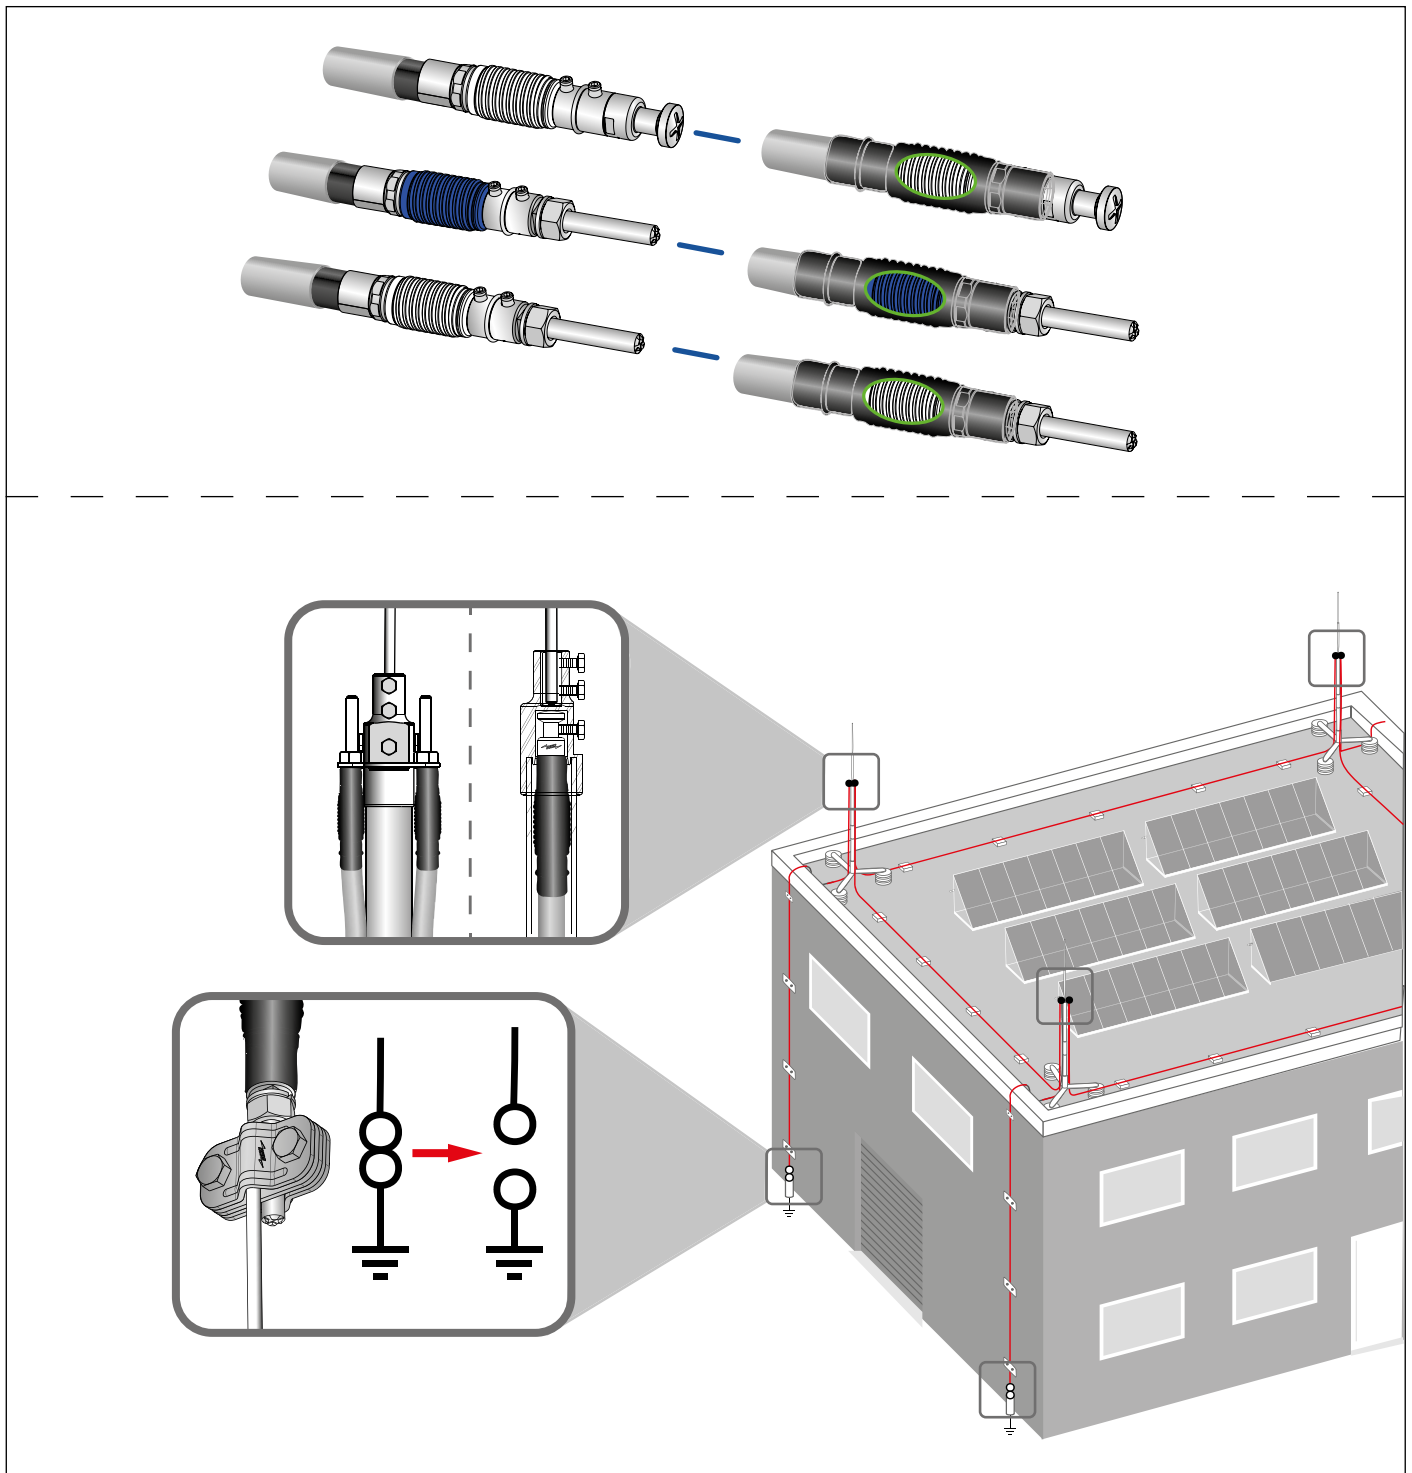
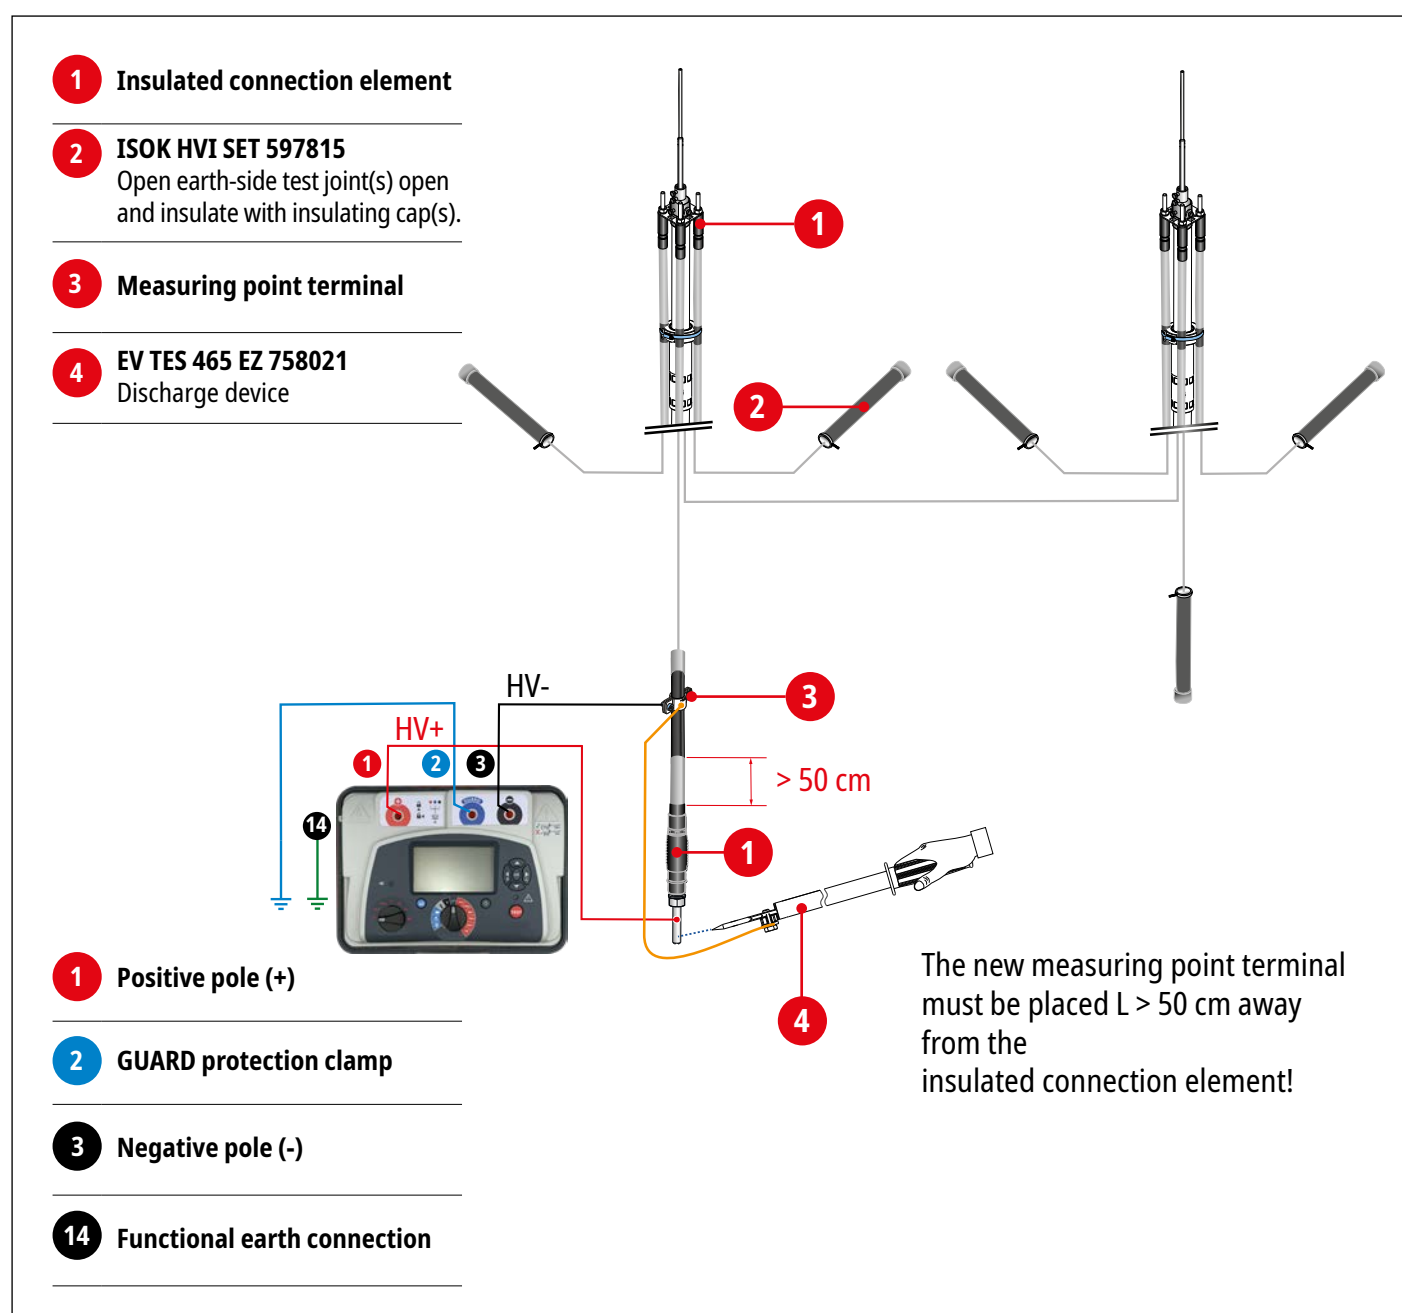

Bild 1 HVI lightning protection systems
Bild 2 Basic circuit diagram for measurement
Insulation measurements are conducted to check the insulation of conductors and ensure they are safe and free of defects. In order to detect possible mechanical or electrical damage to high-voltage-resistant, insulated down conductors, a dielectric withstand test / insulation measurement is performed on the HVI lightning protection system. The test is carried out on intact systems in a non-destructive manner and without installation work (see Fig. 1, page 3 and Fig. 2, page 4).
The insulated lightning protection system must be disconnected from the earthing system by opening the test joint terminals (see Figure 1 as an example).
It is particularly important to note that only components approved by DEHN, such as HVI Conductors and insulated connection elements, may be tested and measured during insulation measurement (see Figure 1).
- For insulation measurement(s) on/in intermeshed **HVI systems**, it is sufficient, for example, to carry out the measurement (with the **Megger MIT1525** test device) at only one conductor end (see Figure 2, basic measurement circuit diagram).
- All other conductor ends must be disconnected and protected from accidental contact and insulated using insulating caps (**ISOK HVI SET – part no. 597815** item 2, page 5), taking into account the safety labelling and enclosure (cover) on the system to be tested. ISOK HVI SET – part no. 597815
- When installing or fitting the insulating caps (item 2) over the open conductor end, they must be screwed tightly to the conductor ends using the locking screw(s) (see Fig. 2, basic measurement circuit diagram).
- The discharge cable from the discharge device is connected to the measuring point terminal (item 4, page 4).
- Connect the measuring device with the connecting cables (Fig. 2, page 4).